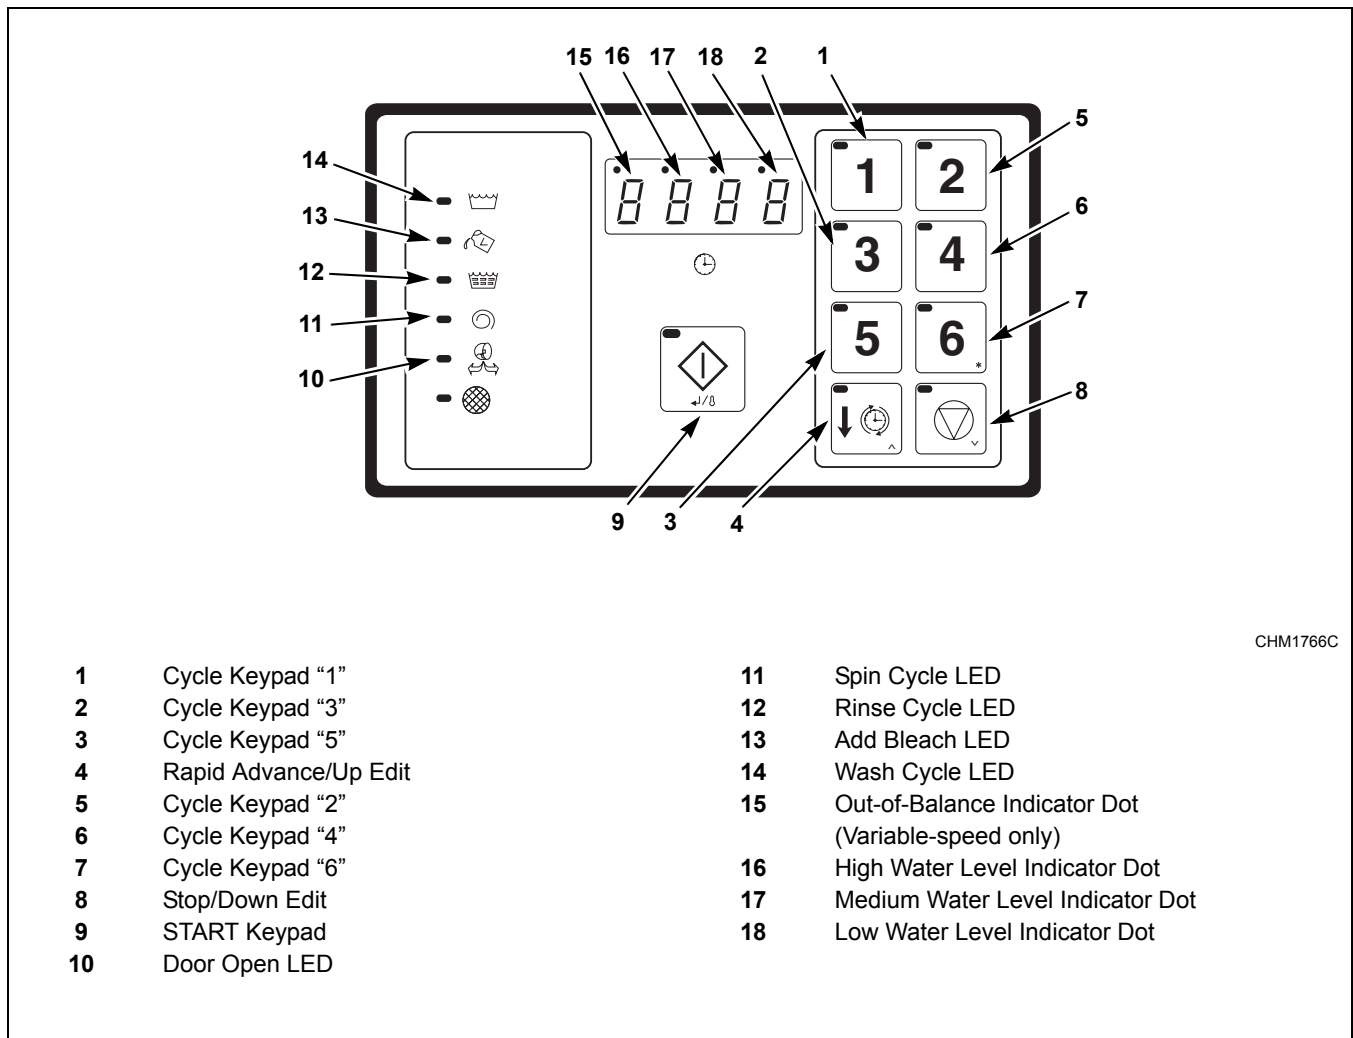

Figure 1
4. Press the START keypad to move into the menu of options. Refer to *Figure 1*